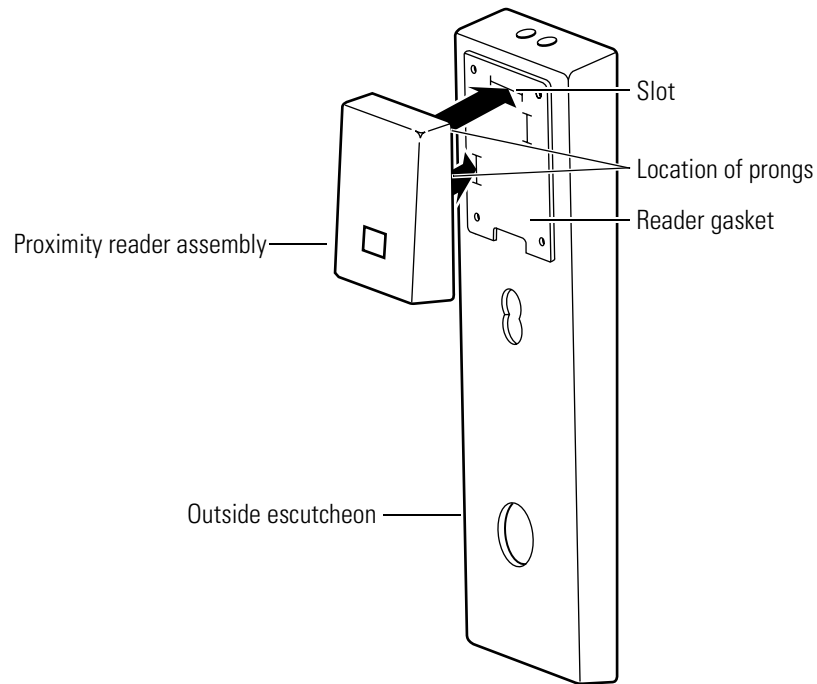

Figure 9.25 Positioning the proximity reader assembly
1. Orient the proximity reader assembly and insert the prongs through the slots in the outside escutcheon. See Figure 9.25.